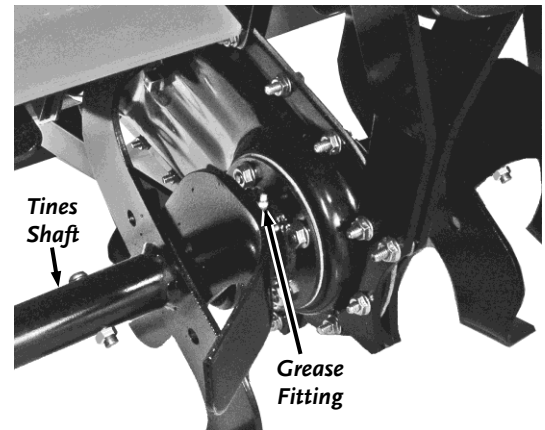

Figure 17
Grease the Tines Shaft using a Grease Gun with General Purpose grease every 8-10 hours. Apply about ten (10) pumps of grease in the Grease Fitting (**Figure 17**). Perform this lubrication more often in dry and dusty environments.